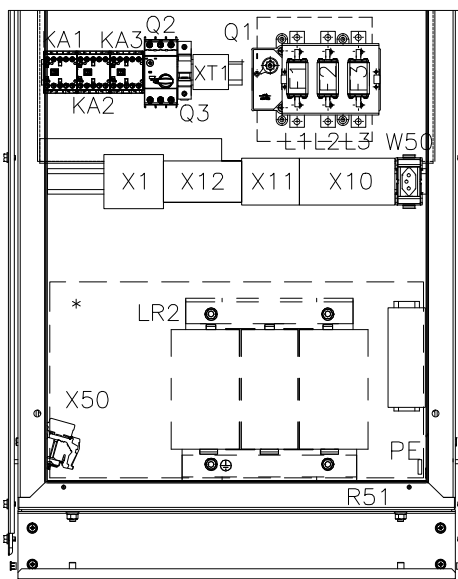

Figure 4.16: Power and grounding cable connections
- The connection of the AFW11 to the mains must be made directly on terminals L1, L2, L3 of the Q1 circuit breaker/disconnector (Phase R/S/T) and on the Ground Bar (frame grounding - PE), as shown in Figure 4.16 on page 36.